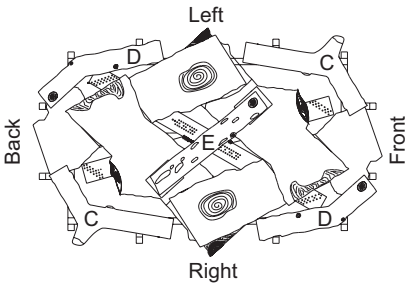

Figure 48 - Installing Twigs "C, D, E" (Top View)
- Take twigs "C" (shaped like a "Y") and place them as shown in Figure 48.
- Take twigs "D" (bent twig) and place them as shown in Figure 48.
- Place twig "E" across the top of logs "B" as shown in Figure 48.
- When finished installing logs, close glass door. Make certain safety door switch is fully depressed by door frame before securing four (4) spring loaded latches.